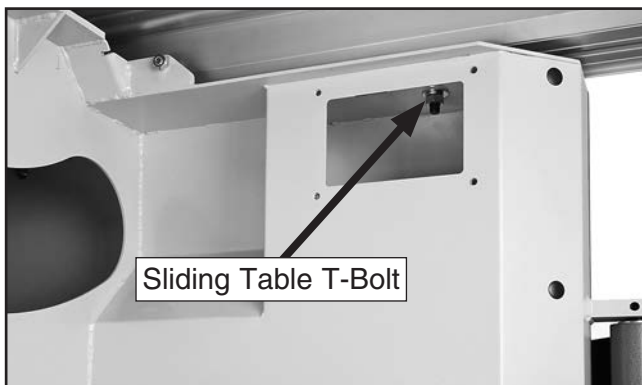
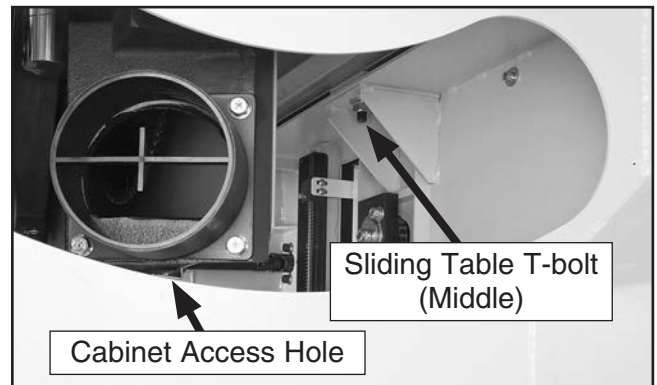

Figure 21. Sliding table T-bolt access on rear side at back of saw.
Figure 23. Sliding table middle T-bolt access.
- Remove access covers on each side of the frame to reach the T-bolts on the ends of the sliding table (**Figures 21–22**). Reach through cabinet access hole to reach middle sliding table T-bolt (**Figure 23**).
- Put (3) M12-1.75 hex nuts, (3) 12mm lock washers, and (3) 12mm flat washers on end of each T-bolt and tighten to secure sliding table to frame (as shown in **Figures 21–23**).